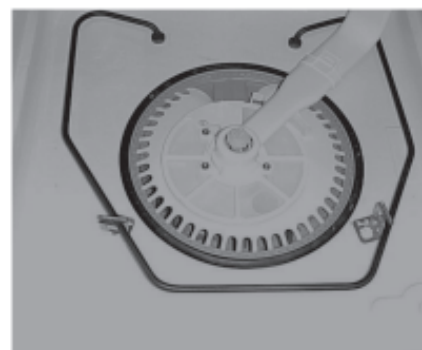

FIGURE 3
6. Turn the feed tube clockwise to disengage it from the pump and then remove it from the dishwasher. (Fig. 3)